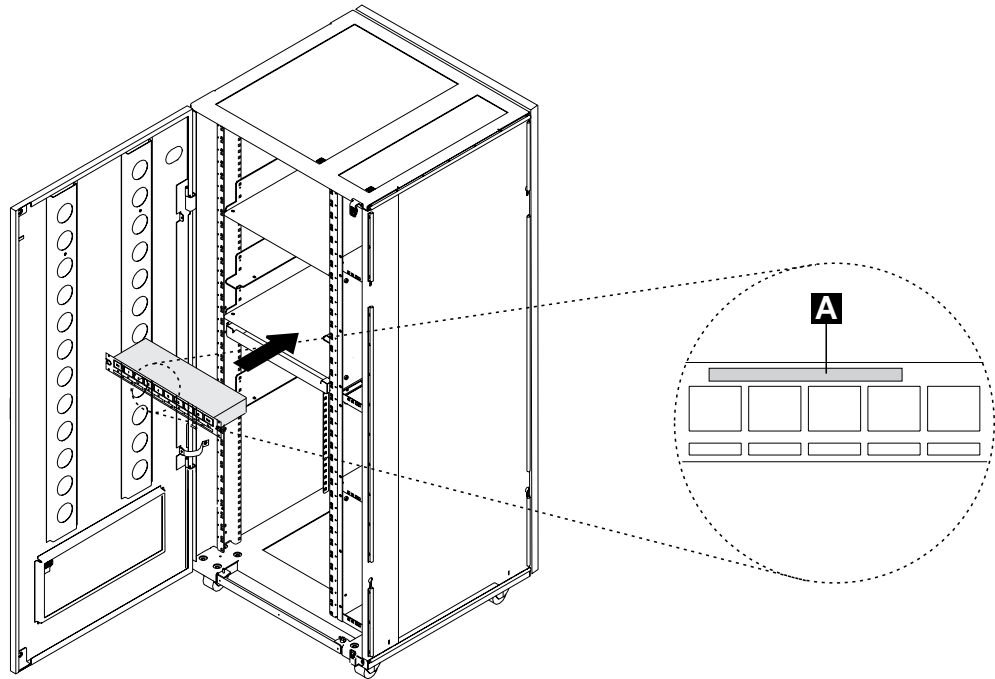

Figure 3-3. Installing the 8228 (Controller Expansion Rear Side)
- a. ____ Install the 8228 on the rear side of the controller expansion using two screws (PN 1621232) and two captive nuts (PN 58G5766) see Figure 3-3.